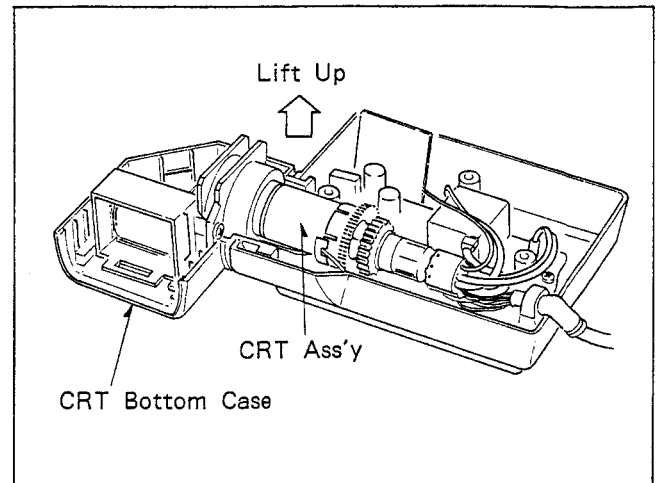

Fig. D23
- (3) Lift the CRT Assembly up shown in Fig. D23.